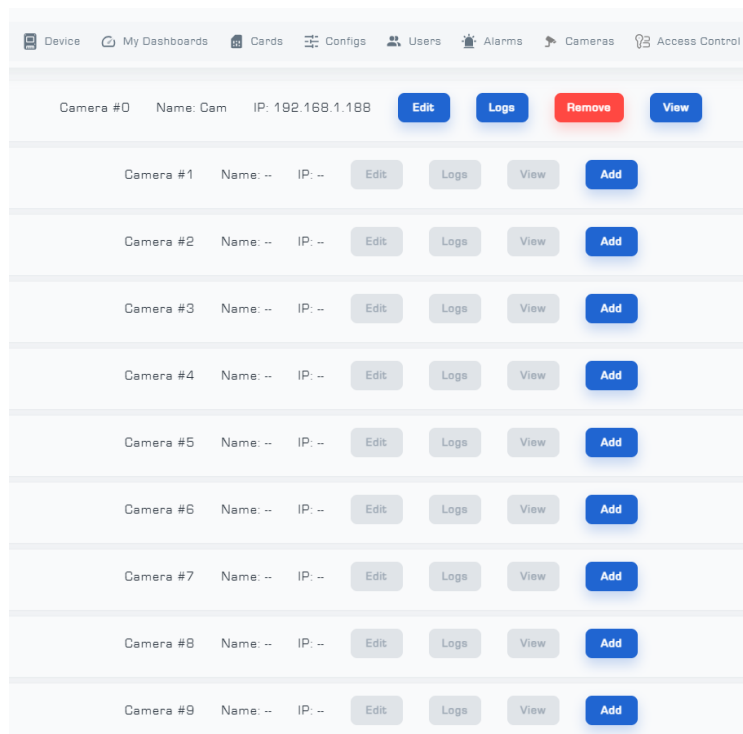

Figure 57: Cameras List Submenu
■ In the 'Cameras List' submenu, you can add cameras to the data logger. To do this, select the 'Add' option on the creation page, click on the displayed IP to enter the camera details, then select 'Add To Info.' Finally, enter a desired password, click 'Test Communication,' and then press '+ Add' (Figure 57). Table 6 describes the toolbar configuration.